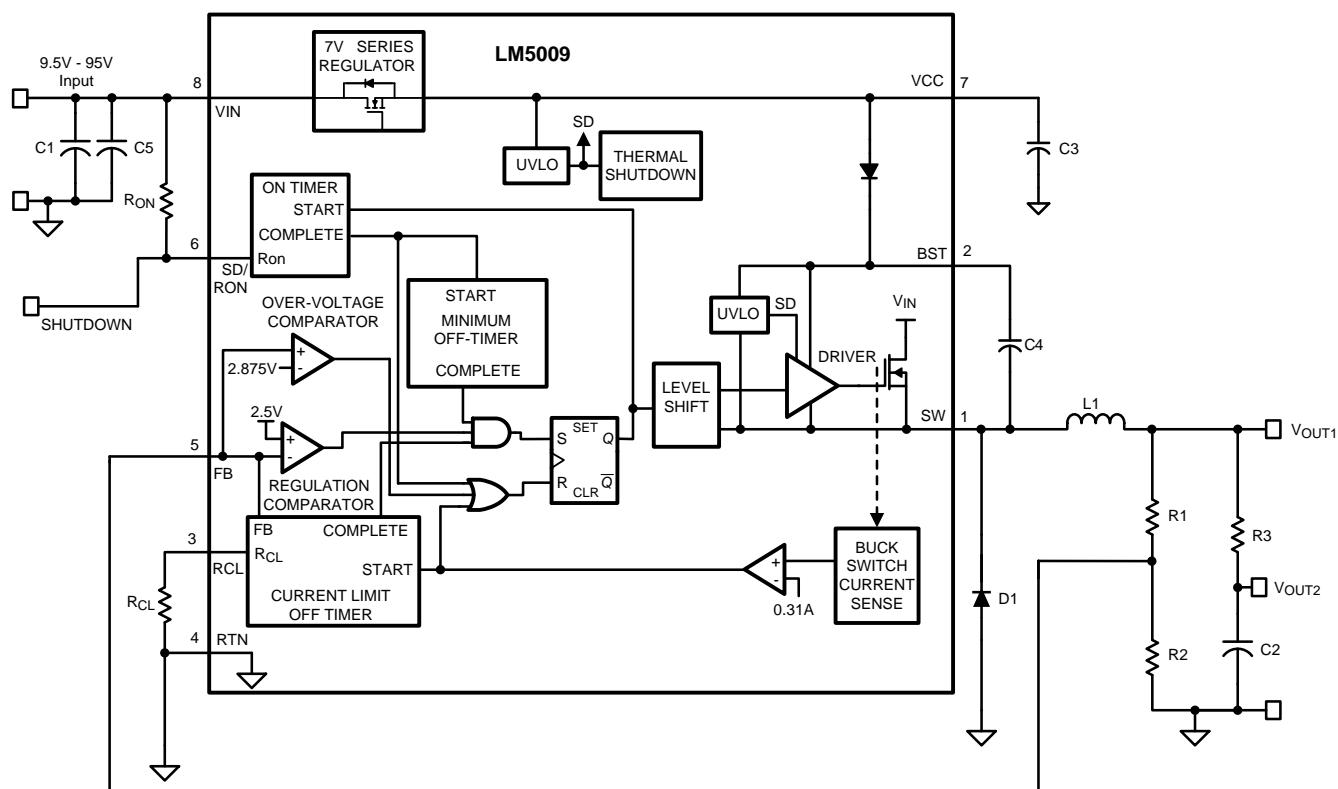

Figure 8.
The LM5009 Step Down Switching Regulator features all the functions needed to implement a low cost, efficient, Buck bias power converter. This high voltage regulator contains a 100 V N-Channel Buck Switch, is easy to implement and is provided in the VSSOP-8 and the thermally enhanced WSON-8 packages. The regulator is based on a control scheme using an on-time inversely proportional to V_{IN} . The control scheme requires no loop compensation. Current limit is implemented with forced off-time, which is inversely proportional to V_{OUT} . This scheme ensures short circuit protection while providing minimum foldback. The Functional Block Diagram of the LM5009 is shown in Figure 8.
The output voltage (V_{OUT}) is programmed by two external resistors as shown in Figure 8. The regulation point is calculated as follows:
This regulator regulates the output voltage based on ripple voltage at the feedback input, requiring a minimum amount of ESR for the output capacitor C2. A minimum of 25mV of ripple voltage at the feedback pin (FB) is required for the LM5009. In cases where the capacitor ESR is too small, additional series resistance may be required (R3 in Figure 8).
A guide for determining the component values will be illustrated with a design example. Refer to Figure 8. The following steps will configure the LM5009 for:
R1 and R2: From Figure 8, $V_{OUT1} = V_{FB} \times (R1 + R2) / R2$, and since $V_{FB} = 2.5V$, the ratio of R1 to R2 calculates as 3:1. Standard values of 3.01 k Ω (R1) and 1.00 k Ω (R2) are chosen. Other values could be used as long as the 3:1 ratio is maintained. The selected values, however, provide a small amount of output loading (2.5 mA) in the event the main load is disconnected. This allows the circuit to maintain regulation until the main load is reconnected.
a) **ESR and R3:** A low ESR for C2 is generally desirable so as to minimize power losses and heating within the capacitor. However, this regulator requires a minimum amount of ripple voltage at the feedback input for proper loop operation. For the LM5009 the minimum ripple required at pin 5 is 25 mV peak-to-peak, requiring a minimum ripple at V_{OUT1} of 100 mV. Since the minimum ripple current (at minimum V_{IN}) is 33 mA peak-to-peak, the minimum ESR required at V_{OUT1} is 3 Ω . Since quality capacitors for SMPS applications have an ESR considerably less than this, R3 is inserted as shown in Figure 8. R3's value, along with C2's ESR, must result in at least 25 mV peak-to-peak ripple at pin 5. Generally, R3 will be 0.5 Ω to 5.0 Ω .